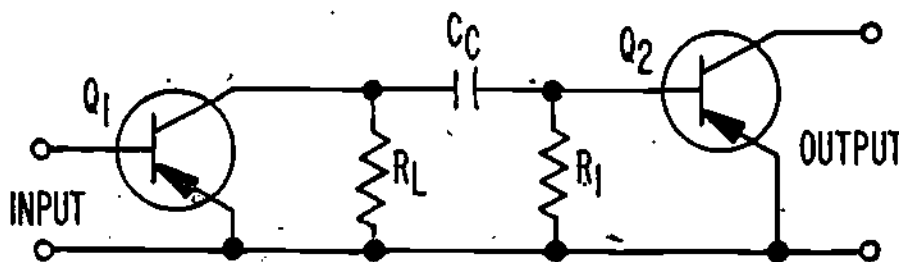
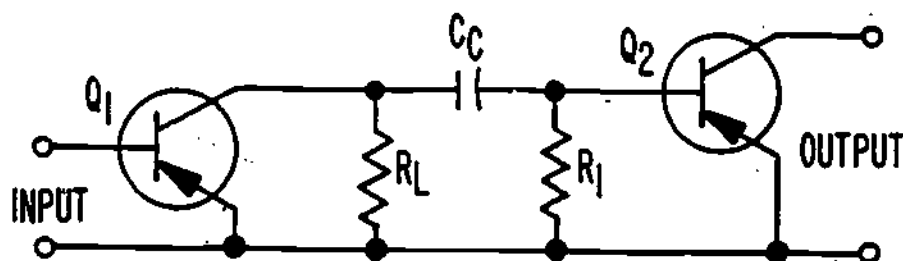
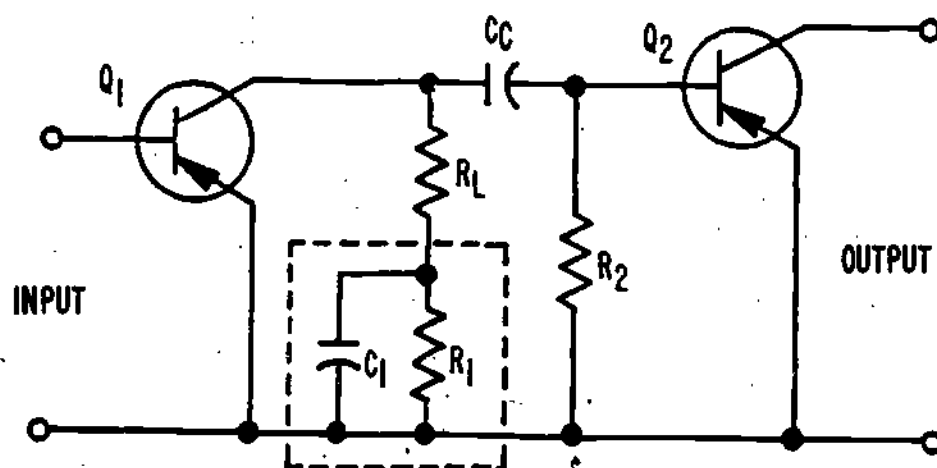

Figure 3
Figure 4
Figure 5
3. How can the bandwidth of RC coupled amplifiers be made wide enough to cover the low and high frequencies needed in video amplifiers? To answer this question, you must learn what limits the frequency response of RC coupling. First, let's discuss what limits amplification at low frequencies. Look at Figure 3 which shows a simplified diagram of an RC coupled, two stage amplifier. The bias voltages and some components are omitted for clarity.
In Figure 3, when the input signal frequency is low, the reactance of C_c is (low/high) and the voltage fed to the base of Q_2 is (low/high).
4. Now that you know why the RC coupled amplifier doesn't amplify low frequency signals, what can be done about it? Refer to Figure 4 which is the same as Figure 3.
To partially compensate for poor low frequency response in Figure 4, a (larger/smaller) value coupling capacitor can be used.
5. Since the coupling capacitor's increased capacitance only partially makes up for low frequency losses, more compensation is needed. Figure 5 shows the same diagram as in Figure 4 with the addition of low frequency compensation components.